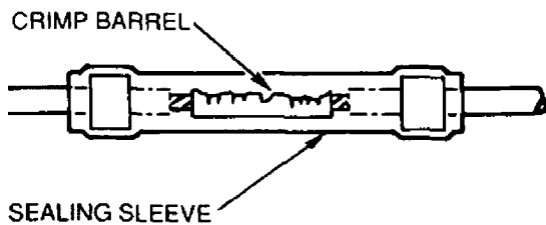

Figure 4. Sealing Sleeve Centered.
o. Center sealing sleeve over crimp barrel (Figure 4).
q. Center sealing sleeve over crimp barrel (Figure 4).